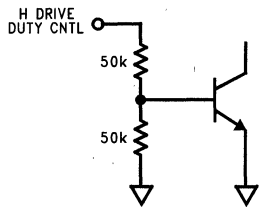

FIGURE 10
**H DRIVE DUTY CNTL (Pin 14):** Horizontal Duty Cycle Control. A 0V to 4V control voltage applied to this pin sets the duty cycle of the horizontal drive output (pin 20), with a range of approximately 30% to 70%. 2V sets the duty cycle to 50%. See *Figure 10* for the input schematic.